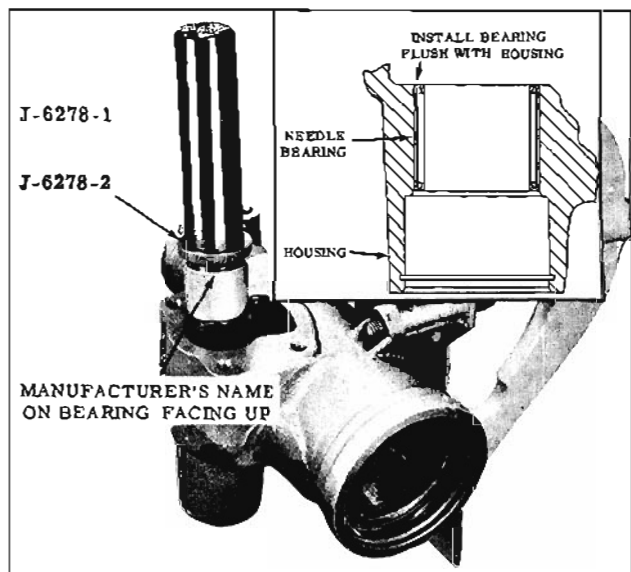

Fig. 8-64 Installing Needle Bearing
1. If the pitman shaft needle bearing was removed, place Adapter J-6278-2 over Tool J-6278-1; slide the new needle bearing on the tool with the manufacturer's identification against the adapter and drive the bearing into the housing until adapter bottoms in housing. (Fig. 8-64)